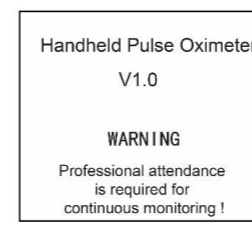

Figure 4.1
- Long pressing "Power/Left" key for 1~2 seconds, then the oximeter will be powered on. The oximeter will do self-test and then the software version and warning message "Professional attendance is required for continuous monitoring!" will be shown on the screen, as shown in figure 4.1 (refer to your oximeter for actual version).